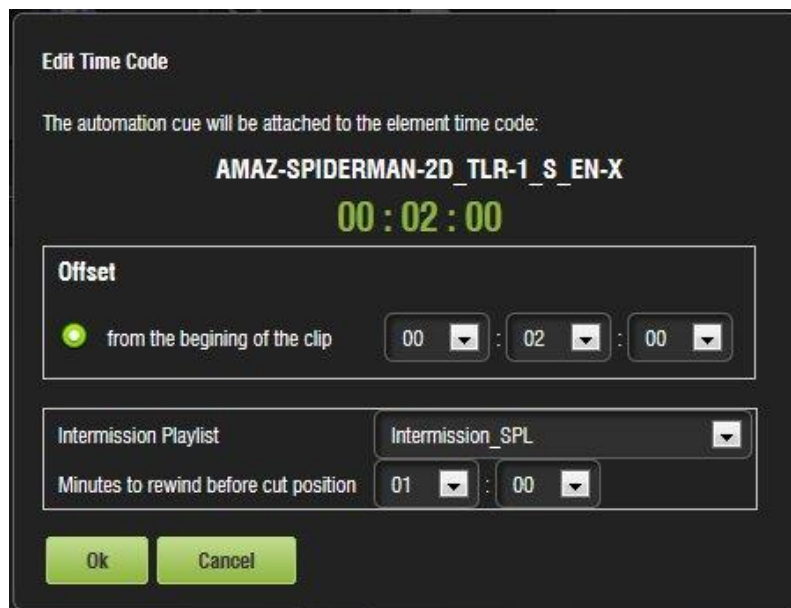

Figure 255: Edit Intermission Window
- In the window that appears, select the preferred offset position time code, the Intermission Playlist from the drop-down of SPLs, and the amount of time to rewind the SPL before the cut position (Figure 255). Click Ok.